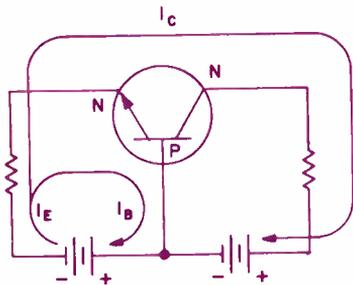
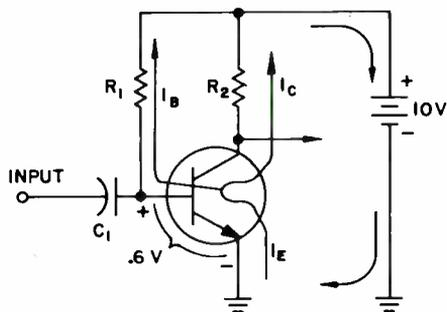
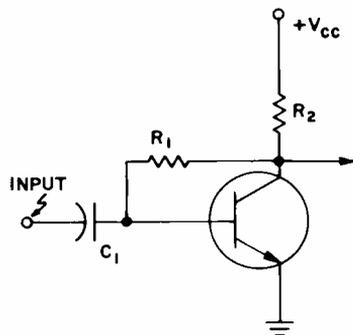

Fig. 5. Proper bias for an NPN transistor.
Fig. 6. A simple common emitter amplifier.
Fig. 7. Negative feedback biasing.
A transistor is properly biased if the emitter-base junction is forward biased and the collector base junction is reverse biased. Forward bias can be applied by connecting the negative terminal of the battery to the emitter of an NPN transistor and the positive terminal of the battery to the base. This will cause the emitter-base diode to conduct, producing forward bias. To reverse bias a junction, the negative terminal of a battery is connected to the base and the positive terminal to the collector. The proper biasing for an NPN transistor is shown in Fig. 5. Note the directions of the currents in the circuit. Resistors are used to limit the current in the base and collector circuits.
The rule for properly biasing a transistor is easy to remember: negative to N, positive to P for forward bias. To reverse bias a junction simply reverse this rule. The proper biasing of a PNP transistor is similar to that shown in Fig. 5 except that the polarities of both the batteries should be reversed.
The common emitter transistor amplifier is the most popular configuration. The term common emitter means that the emitter is the element common to both the input and output. A simple common emitter circuit is shown in Fig. 6. The proper biases on both junctions are obtained with one battery, unlike the circuit of Fig. 5 which uses two batteries. The supply voltage battery and resistor R_1 supply forward bias to the emitter-base junction. The emitter-base diode conducts and current flows from the negative terminal of the battery to the emitter, across the emitter-base junction to the base, and through R_1 to the positive terminal of the supply voltage. The voltage drop across the emitter-base diode is approximately .6 volt for this NPN transistor. This means that the base is far less positive than the collector or the collector is more positive than the base, meaning that the base-collector junction is reverse biased. The value of resistor R_1 is chosen so that the resulting base current will cause just enough emitter and collector current to make the voltage drop across R_2 equal to 1/2 the supply voltage, V_{CC} . If the supply voltage is 10 volts,
Despite its simplicity and wide use, the amplifier circuit of Fig. 6 is not the best arrangement. The circuit is highly sensitive to transistor characteristics and, if the transistor used in the original circuit becomes defective, a transistor with identical characteristics will have to be used to replace it to obtain proper operation. In most cases this is not possible since even transistors of the same type vary widely in characteristics. A change in the transistor Beta, for example, will cause a shift in the bias point and, therefore, could cause distortion of the signal being amplified. This circuit is sensitive to leakage currents in the reverse biased base-collector junction. Even though a
junction in a diode or transistor may be reverse biased and no current is supposed to flow, some leakage current does in reality flow across the junction. In most good silicon transistors this leakage current is very low, so it usually has little or no detrimental effect on the operation of the circuit. However, some transistors do have enough leakage to cause a change in the base bias and, therefore, a shift in the operating point of the amplifier. To make matters worse this leakage current is temperature sensitive. This leakage current increases with temperature. Therefore, when the circuit is operated at high temperatures, a drastic shift in the bias current could cause severe distortion of the signal being amplified. For these reasons other biasing methods have been developed. The circuit in Fig. 7 is an example of an improved bias method. Here the base resistor R_1 is connected between the collector and the base of the transistor rather than between $+V_{CC}$ and the base, as in Fig. 6. This produces some negative feedback which improves the bias stability with temperature. In the circuit of Fig. 6, if the temperature is increased the leakage will increase and cause the transistor to conduct harder. This means more collector current will flow and a larger voltage drop across
R_2 . The dc output voltage will drop substantially. However, the circuit of Fig. 7 offsets this somewhat. If the temperature increases and the leakage current causes greater conduction of the transistor, more voltage will be dropped across R_2 . This means that the output voltage between the collector and the emitter of the transistor will drop, thereby decreasing the amount of base current flowing through R_1 . Since the base current is decreased, the transistor will not conduct as much and the collector voltage will rise. As you can see this negative feedback effect does compensate for the leakage current effects at high temperature.
4. You measure the collector output voltage of a transistor amplifier like that in Fig. 6 with a supply voltage of +10 volts and find it to be +10 volts. You can conclude that the circuit is operating properly.